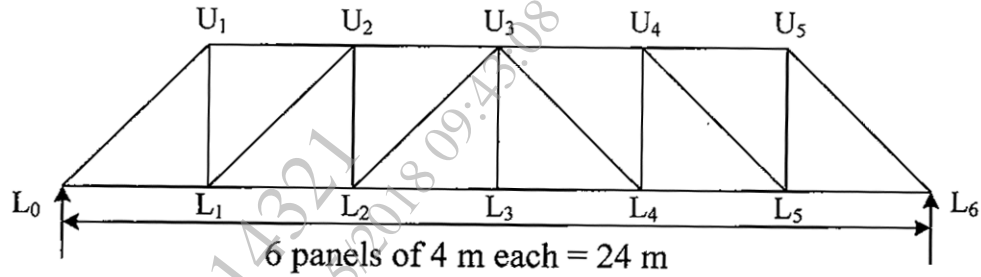

Fig. 2
- (b) Draw influence line diagrams for forces in the members L_1L_2 , L_2U_3 and U_4U_5 of the through type bridge truss as shown in Fig. 2. Height of truss is 4 m. [6]